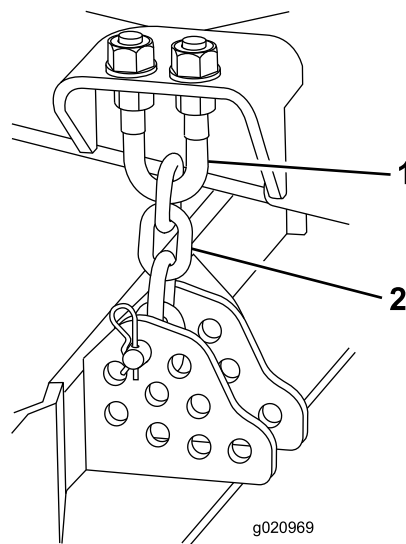

Figure 76
4. Remove the hairpin cotter and clevis pin securing the height-of-cut chains to the rear of the mower deck (Figure 76).